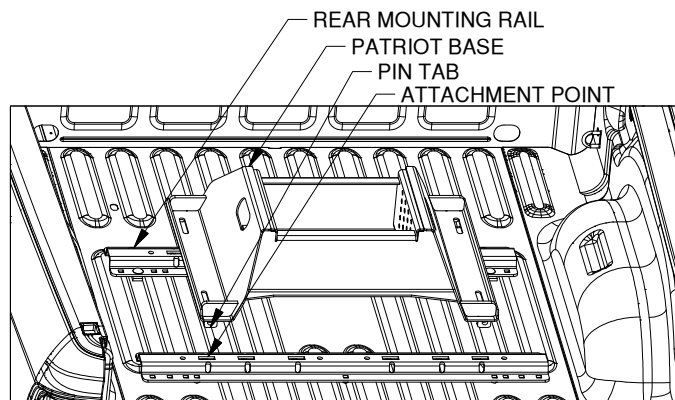

Figure D1: View into truck bed looking toward tailgate.
1. **Position the rear mounting rail.** For this step the base which will be used in the mounting rails is required. Place a mounting rail into the truck bed behind the forward mounting rail. Place the base over the rail attachment points and carefully lower it until the pin tabs pass through the attachment points on the forward mounting rail. Attach the rear mounting rail to the rear mounting points on the base. The base should rest flat against the top of the rails, see Figure D1. With the base still attached, ensure that the rear rail is centered in the truck bed.